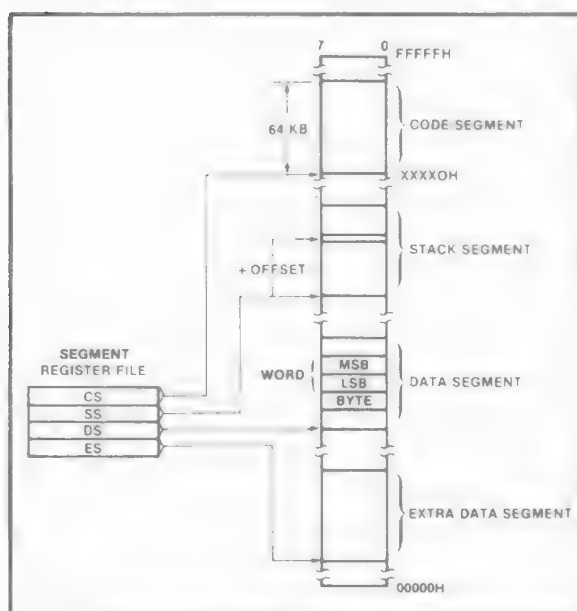

Figure 3. Memory Organization
The processor provides a 20-bit address to memory which locates the byte being referenced. The memory is organized as a linear array of up to 1 million bytes, addressed as 00000(H) to FFFFF(H). The memory is logically divided into code, data, extra data, and stack segments of up to 64K bytes each, with each segment falling on 16-byte boundaries. (See Figure 3.)